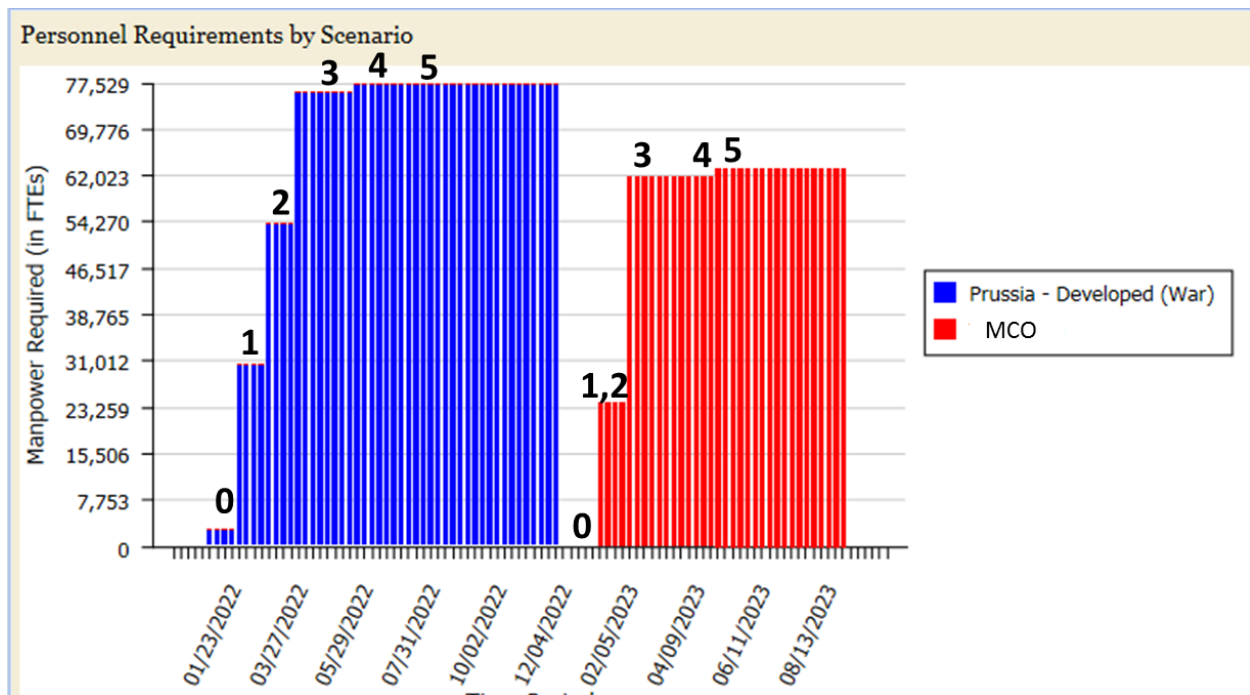

Figure 5. Phases for mission scenarios.
6. Using Figure 5, we see that April-May 2022 occurs during phase 3 of Prussia - Developed.